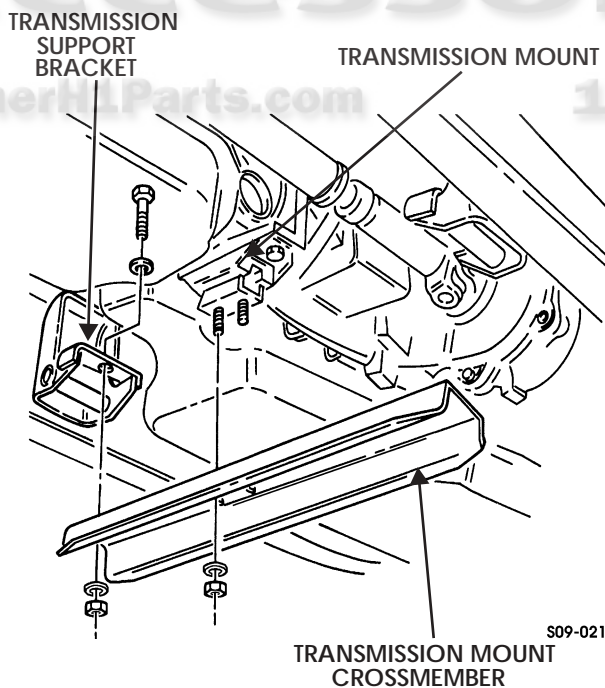

Figure 9-33: Transmission Mount Crossmember
1. Place support under transmission and remove two locknuts, washers, capscrews, and washers securing transmission mount crossmember to two transmission support brackets. Discard locknuts (Figure 9-33).
1. Install transmission mount crossmember on two transmission support brackets with two washers, capscrews, washers, and locknuts. Tighten locknuts to 90 lb-ft (122 N•m) (Figure 9-33).
1. Install transmission mount on adapter with two lockwashers and capscrews. Tighten capscrews to 65 lb-ft (88 N•m) (Figure 9-33).